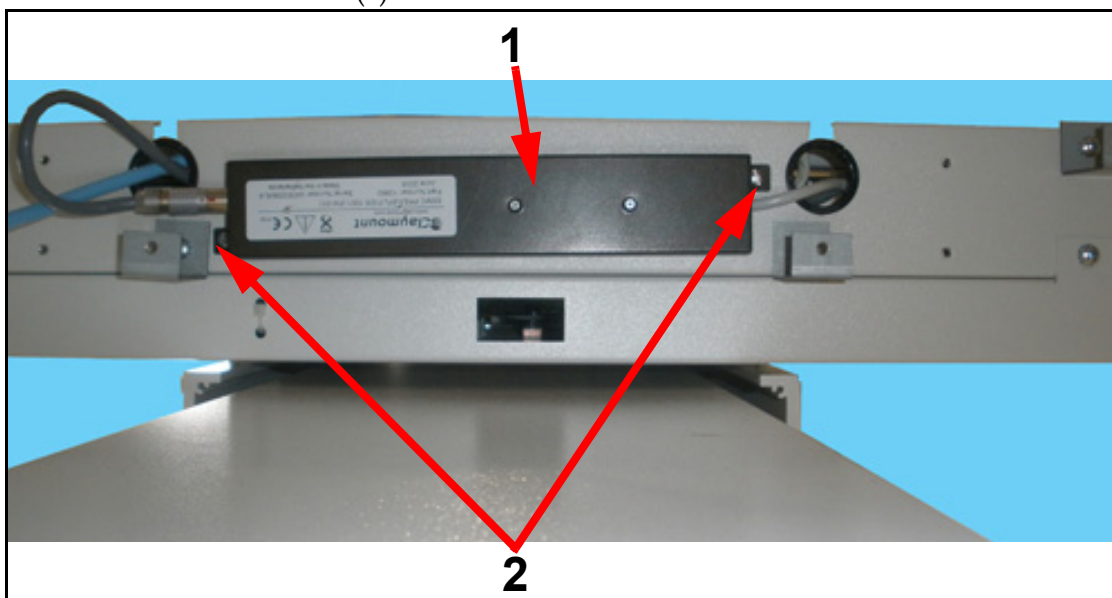

Figure E-15. Pre-amp Mounting
- 17** For optional ion chamber, mount pre-amp (1 in Figure E-15) with screws (2).